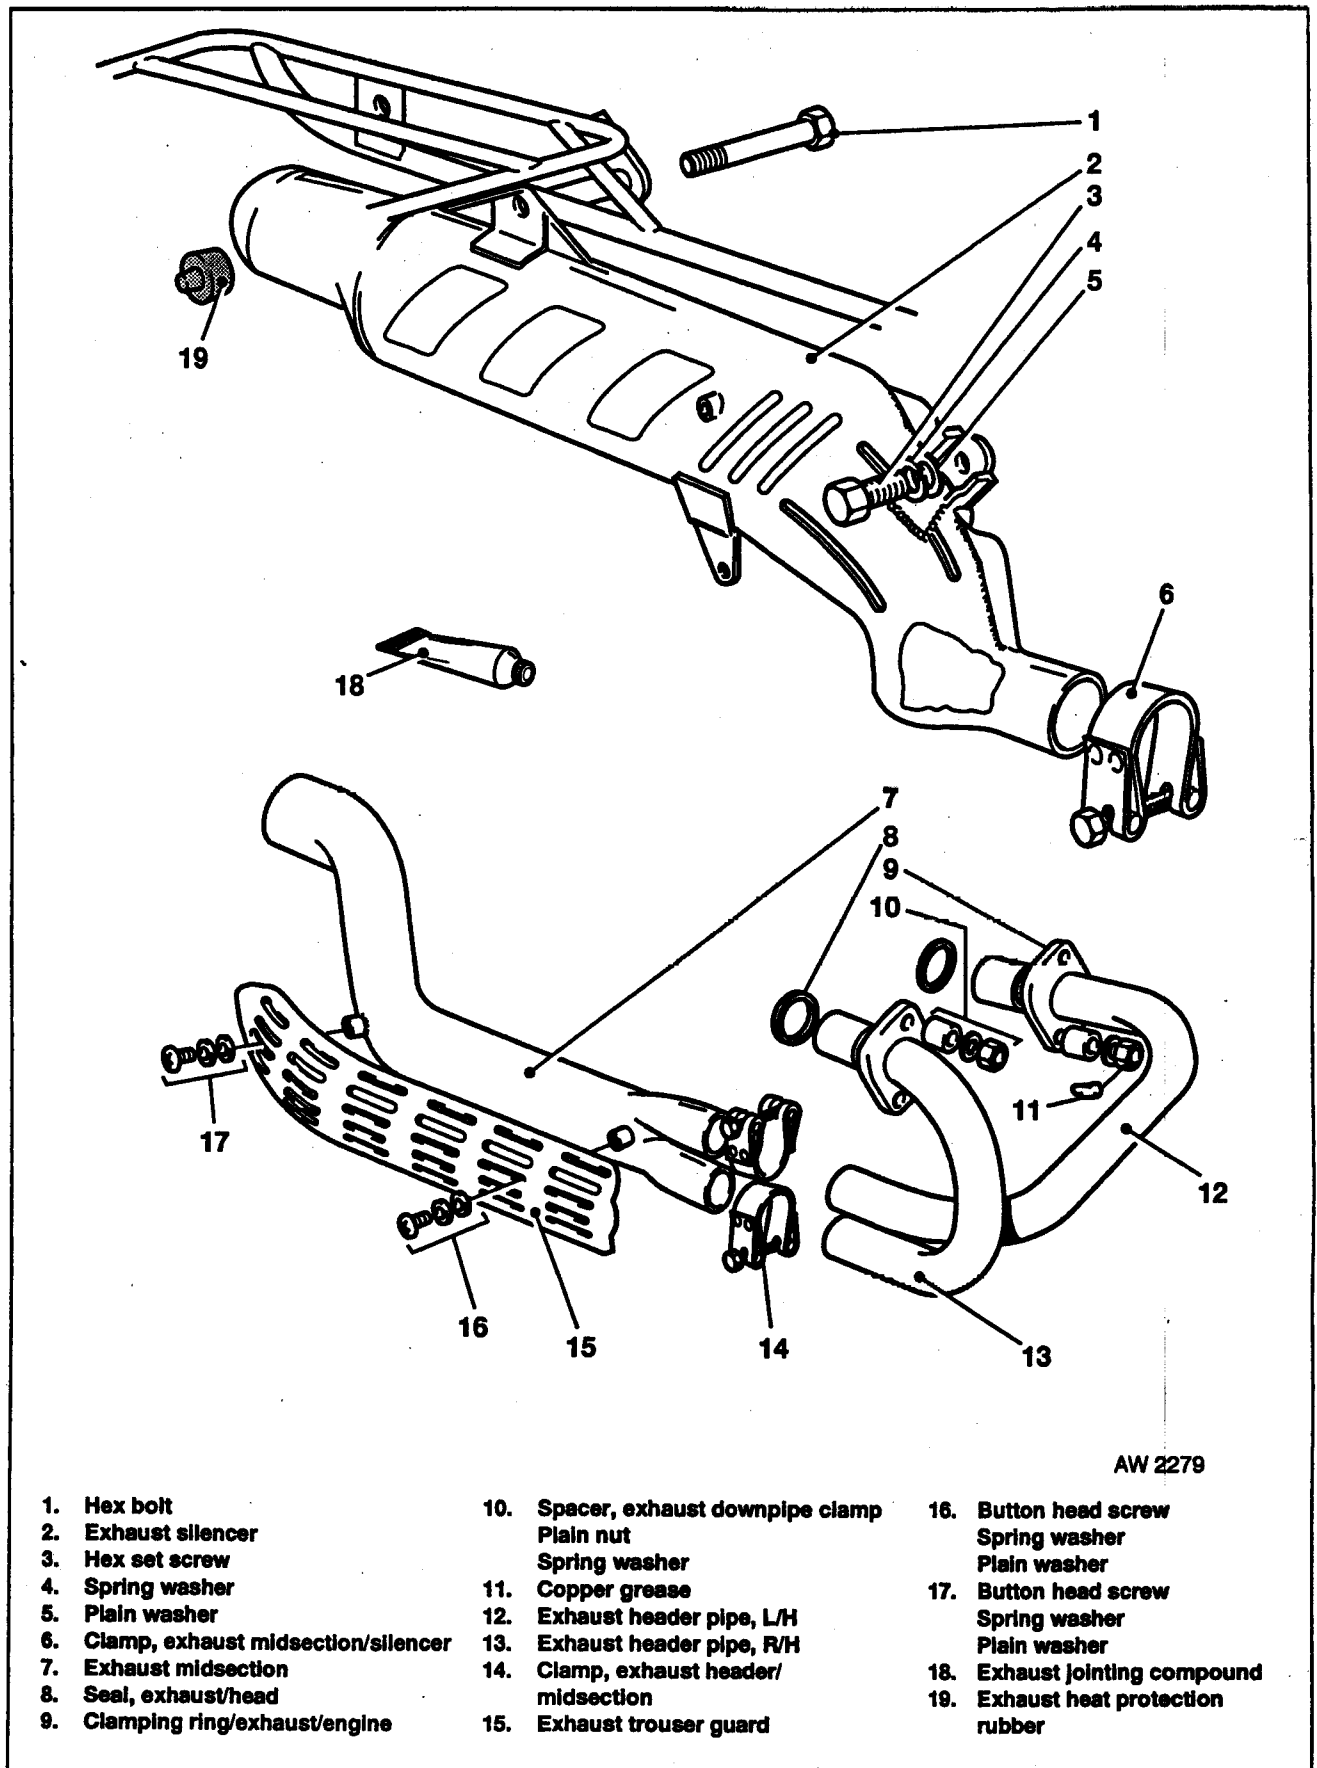

Fig 5.1 Exhaust System
- c. Use a good quality high temperature jointing compound (Fig 5.1 (18) refers) on all joints.
- d. Both cylinder head exhaust flange nuts (Fig 5.1 (10) refers) must be tightened progressively to effect square clamping.
An application of copper grease (Fig 5.1 (11) refers) will prevent subsequent seizure of the nuts.